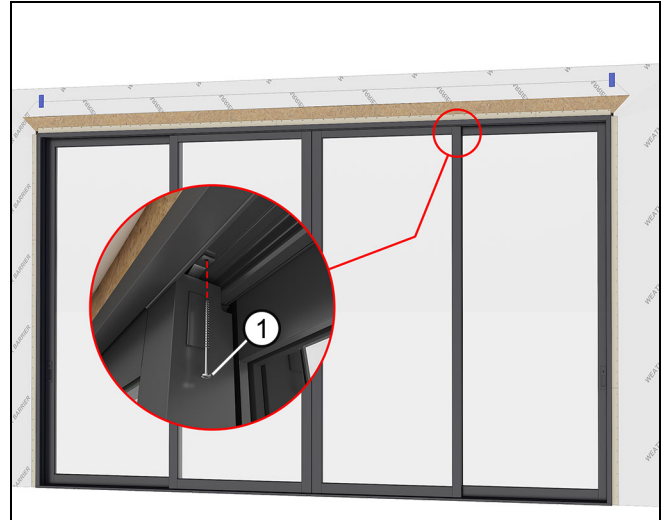

Figure 172 XOOX
14. Bend the top stationary bracket of the (C) stationary panel up against the head jamb, pre-drill a 3/16" hole using the bracket as a template. Fasten through the bracket into the head jamb with a #10 x 3" installation screw. Shim as needed taking care not to bow the head jamb. See Figure 172.